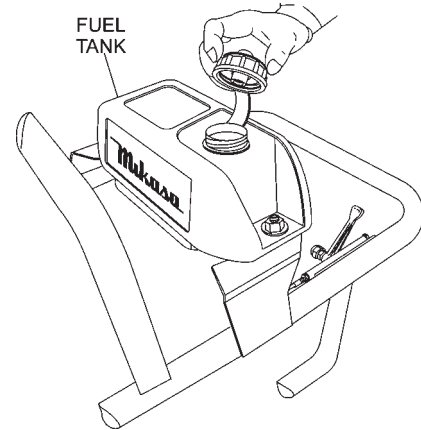

Figure 3. Fuel Tank
1. Fill the fuel tank (Figure 3) with unleaded gasoline. At the same time, check the engine oil and make it a habit to replenish it often.